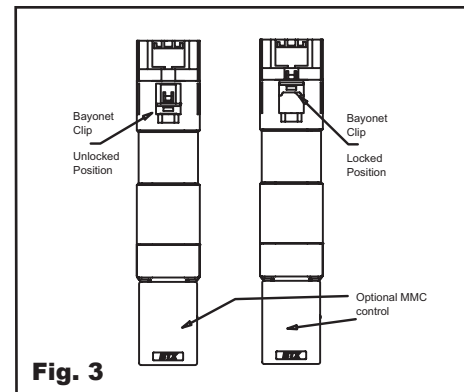

Fig. 3
3. Rotate motor, aligning red dot on motor with red dot on gear housing. **Push motor locking clip (Fig. 3) into gear housing!**